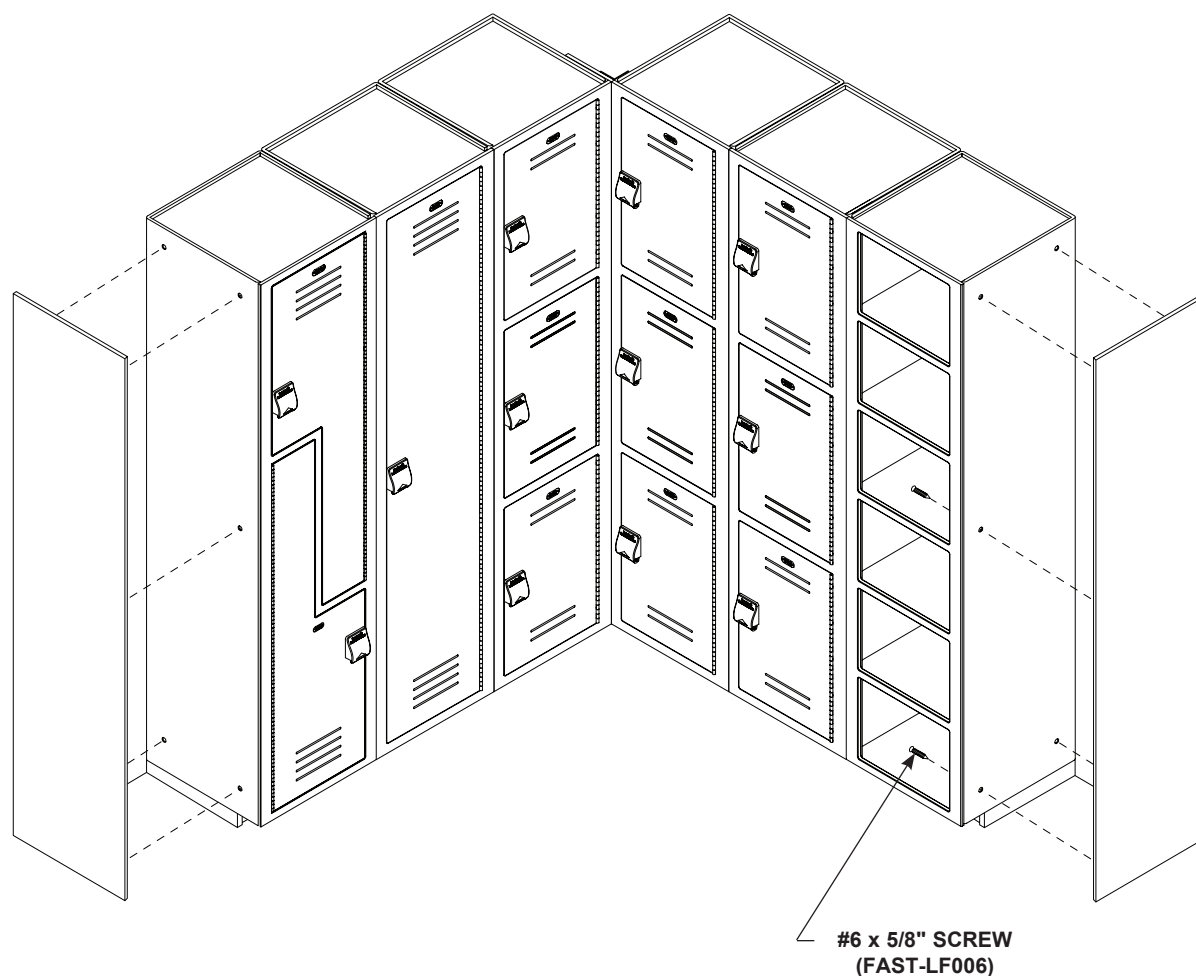

Figure 8
NOTE: Optional slope top not shown in Figure 8.
1. Drill five 3/16" dia. holes through each of the exposed locker side(s) where the end panel is to be attached at the locations shown in Figure 8. Do not drill holes into the end panel.
2. Fasten the end panel to the locker(s) using the #6 x 5/8" screws provided (see Figure 8). The screws must be inserted through the inside of the locker and screwed into the end panel. The screws will not protrude through the end panel.